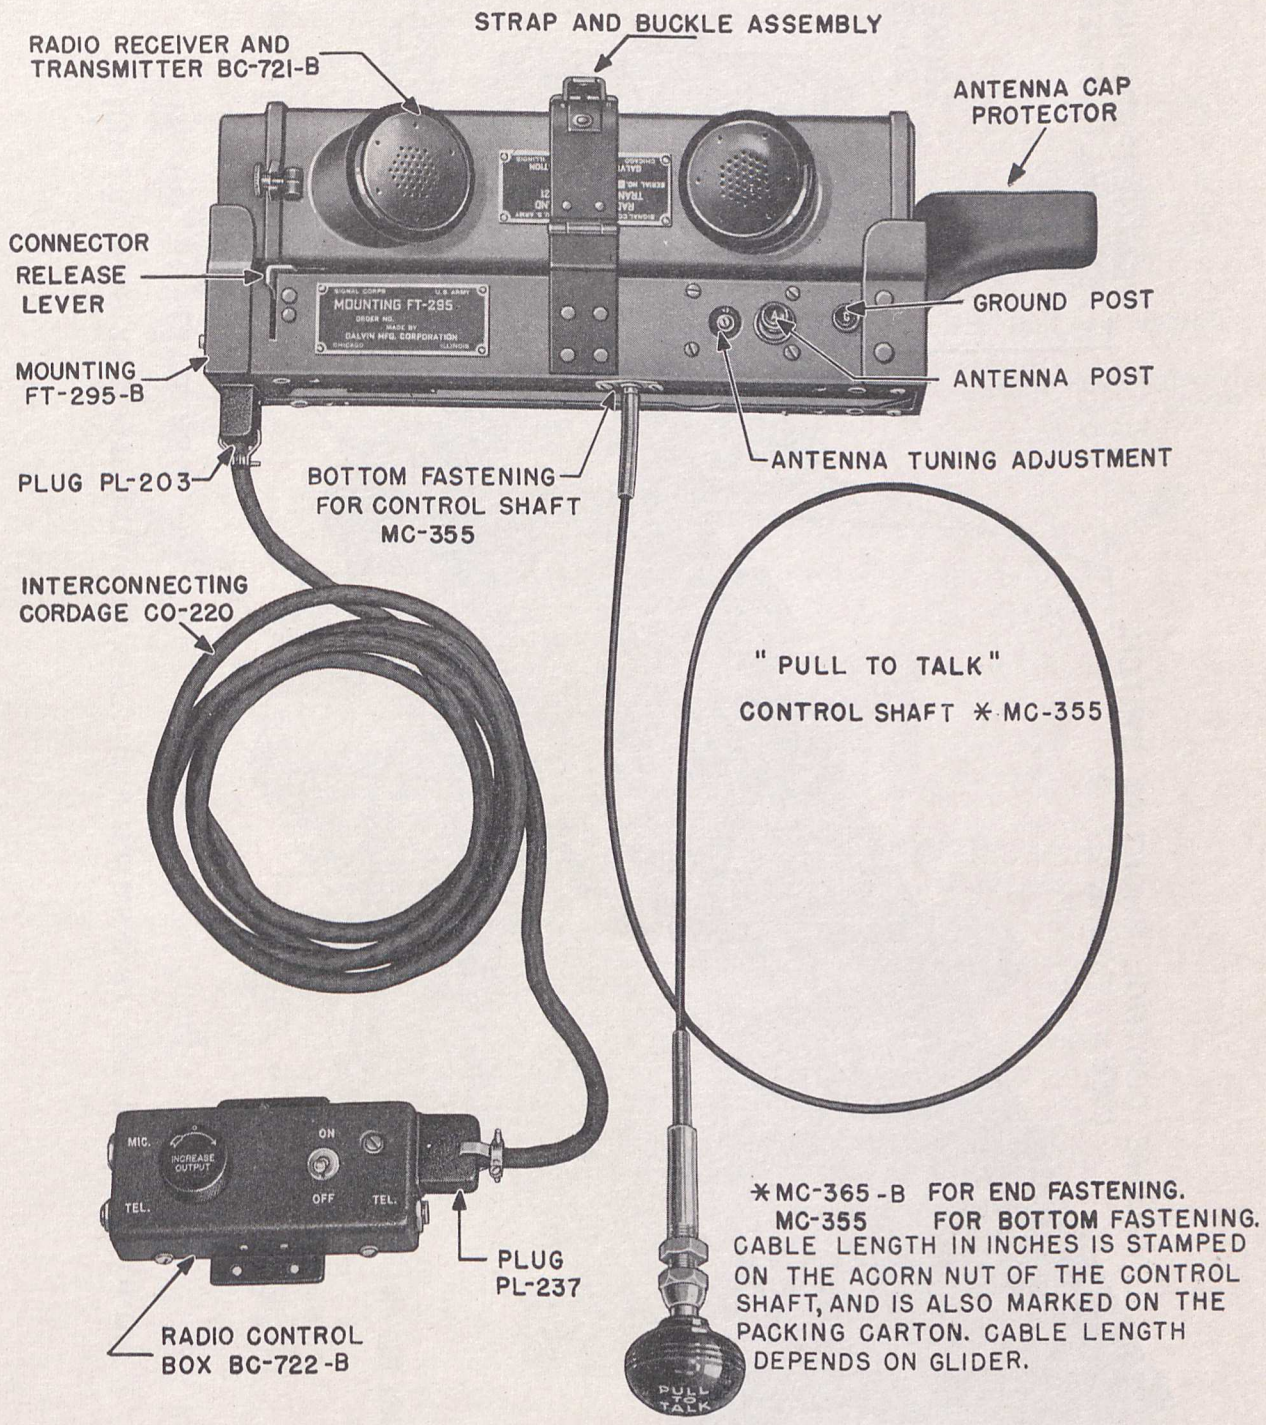

FIG. 4. RADIO SET SCR-585-B, USING BOTTOM-FASTENING CONTROL SHAFT MC-355]
e. Radio Control Box BC-722-B.—This box contains the ON-OFF power switch, INCREASE OUTPUT volume control (receiver volume), jacks for the headphones and microphone, a microphone transformer, and male Connector SO-217. See Figs. 4 and 8.
14. ADJUSTMENT OF THE ANTENNA TUNING CAPACITOR.—Place an 0-100 r-f milliamperemeter (See Note) in series with the antenna external lead at the "A" binding post on Mounting FT-295-B, keeping all connecting wires as short as possible. Snap on the ON-OFF switch on Radio Control Box BC-722-B to the "ON" position and pull out the "PULL-TO-TALK" knob. Adjust the capacitor located near the antenna binding post for maximum deflection on the meter, using an insulated screw-driver. *With a $\frac{5}{16}$ " wrench tighten the cap nut to lock the capacitor securely in place.* See Figs. 4 and 8. The "PULL-TO-TALK" knob should not be held out longer than is necessary to adjust the antenna tuning capacitor, as this shortens the life of the batteries. Disconnect the r-f meter and replace the antenna lead on binding post "A" on Mounting FT-295-B. The radio set is now ready for use in the glider. NOTE: A 0-50 ma r-f meter will be satisfactory for antenna capacitor adjustments in most cases. *If no other meters are available, the 50 ma r-f meter supplied as part of Test Equipment IE-17-B can be used for this adjustment. The range can be extended to 100 ma by shunting the meter with a 5 ohm non-inductive resistor.*